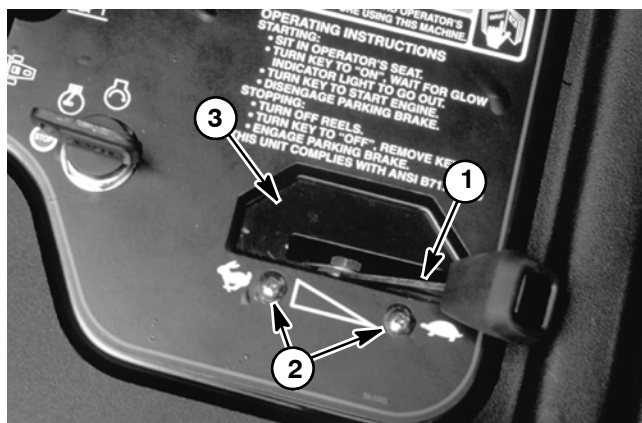

Figure 5
2. Position throttle control lever all the way to the SLOW position so it stops against the control panel slot (Fig. 5).
5. Loosen screws securing throttle control lever to the control panel (Fig. 5).
6. Push throttle control lever all the way to the FAST position. Slide stop plate until it contacts throttle control lever, and tighten screws securing throttle control to control panel (Fig. 5).